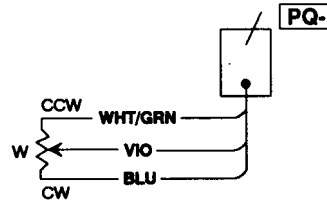

Figure 4: PQ-1001 Wire Designations
- The PQ-1001 is supplied with 6 in. (152 mm) pigtail leads of color coded wire. When wiring into a system, refer to Figure 4 below:
- Check that the wiring is not reversed: the full clockwise damper position is indicated by the blue wire and the full counterclockwise damper position is indicated by the white/green wire. Refer to Figure 4 on page 5 as needed.